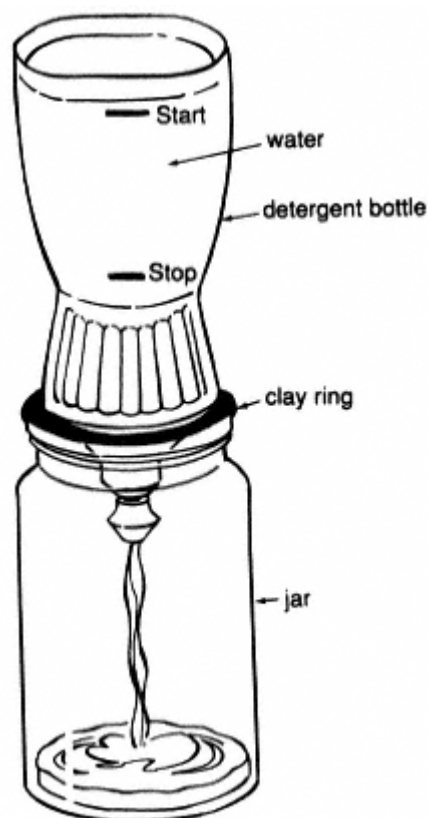

Figure 18.1
9. Immediately set the bottle back on the jar (see Figure 18.1).